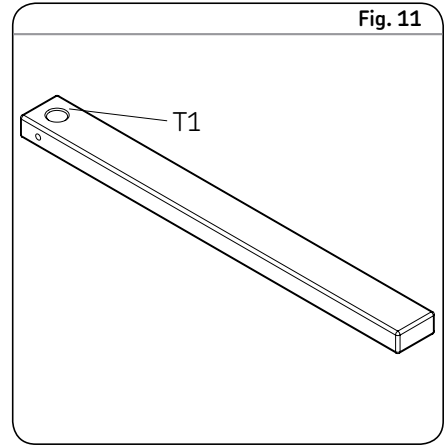

Fig. 11
- 4 Pull the cup seal (16) out of the wrist pin anchor (13).
- 5 Remove the steel backup ring (17).
- 6 Place the plunger link rod (20) in a vise.
- 7 Using an open ended wrench, loosen the plunger link rod (20) and remove from the outlet pin (8).
- 8 Remove the plunger link rod (20).
- 9 Remove the retainer clip (19) from the plunger link rod (20).
- 10 Using a blunt tool, remove the o-ring (18) from the plunger link rod (20).
- 11 Remove the back up washer (15) from the plunger link rod (20).
- 12 Remove the o-ring (14) from the plunger tube (52).
- 13 With the crank rod in a vise and using the special tool (T1) provided in tool kit, 276275 remove the plunger link rod (20). Refer to fig. 11.
- 14 Place the end of the plunger link rod (20) into the hole of the special tool (T1).
- 15 Align the outlet hole of the plunger link rod (20) with the hole in the special tool (T1). Refer to fig. 11.
- 16 Insert the pin included in the tool kit (276275) through the tool and into the plunger link rod (20) outlet hole.
- 17 Turn the tool counter clockwise to loosen the lower bushing and plunger (24) from the plunger link rod (20).
- 18 Remove the plunger (24).
- 19 Remove the check rod from (22) the lower bushing and plunger (24).
- 20 Remove the ball (23) from the lower bushing and plunger (24).
- 21 Remove the spring (21) from the link rod (20).
- 1 Loosen the check seat housing (30) with $\frac{3}{8}$ in. (9 mm) hex head wrench. Refer to **fig. 11**.
- 2 Remove the check seat housing (30) from the reciprocating tube (25).
- 3 Remove the ball cage (28), check ball (29) and o-ring seal (27) from the check seat housing (30).
- 4 Remove the lower bushing (24) from the reciprocating tube (25).
- 5 Remove the lower cup seal (26) from the reciprocating tube (25).